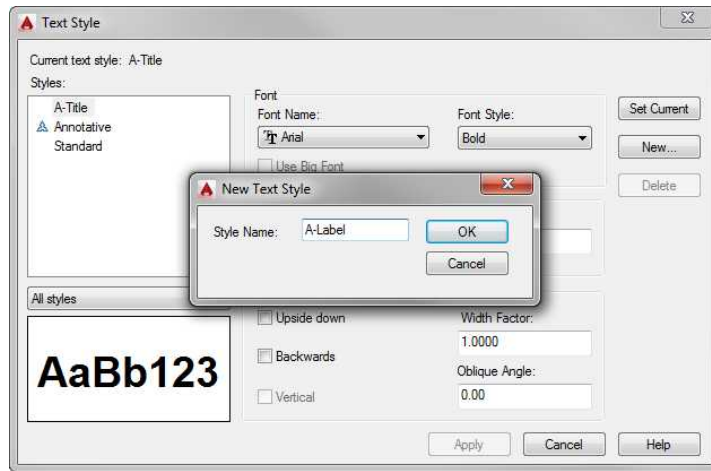

FIGURE 8.14: Setting the name for the new text style
4. Enter **A-Label** as the name, and click OK to return to the Text Style dialog box (see Figure 8.14).